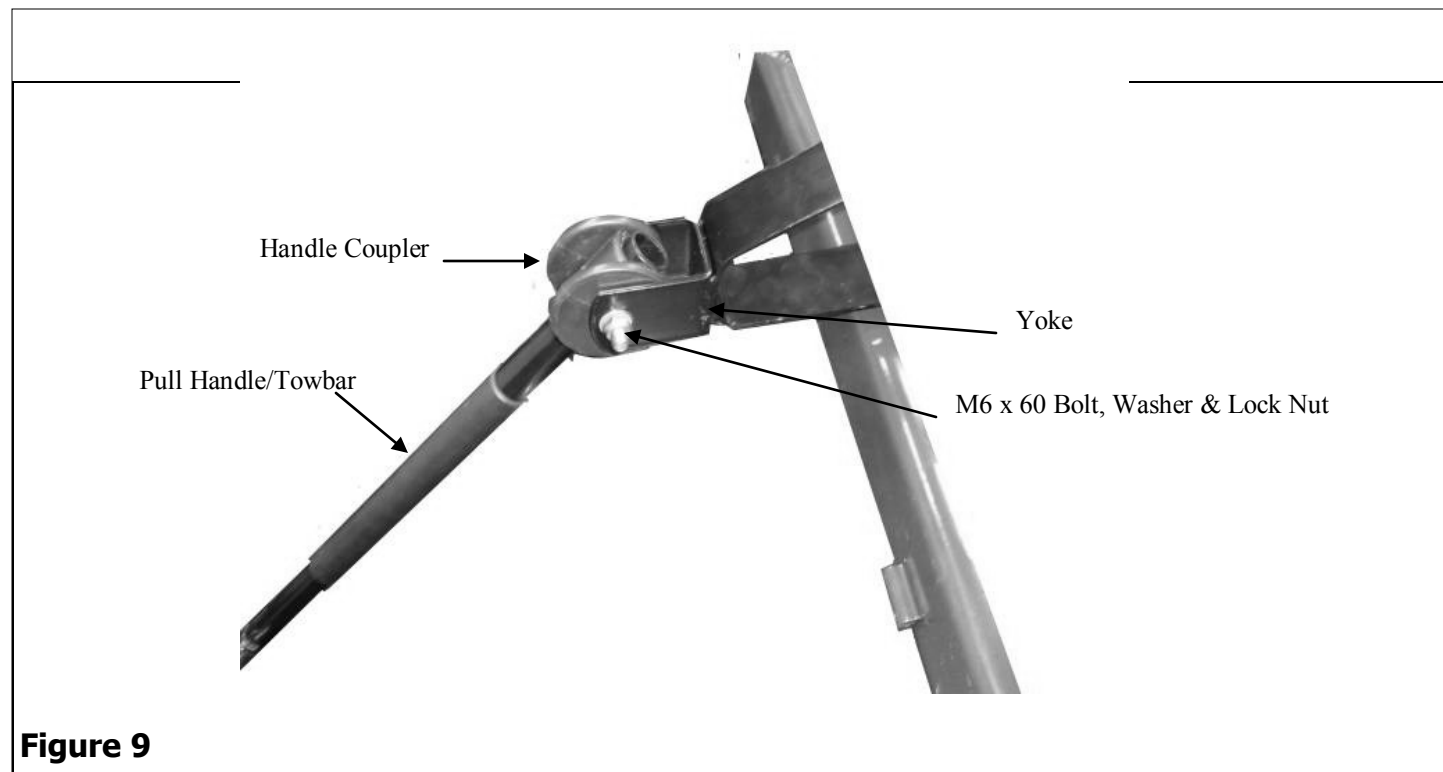

Figure 9
10. Attach the Handle Coupler to the end of the Pull Handle and join to the end of the Yoke by aligning holes and then inserting M6 x 60 Pull Handle Bolt into first the Yoke, the coupler, then out the other side of the Yoke. Secure with Washer and Lock Nut. See Figure 9.